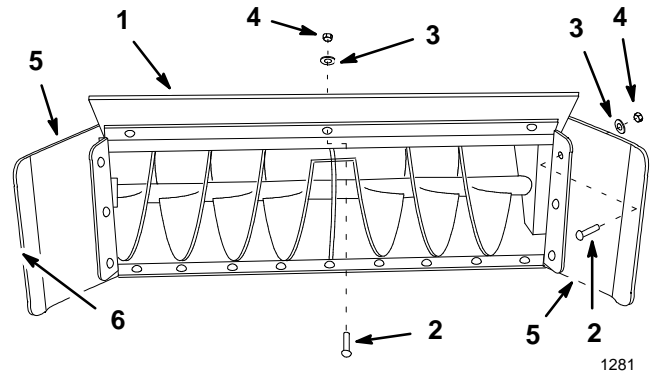

Figure 2
4. Rotate the housing down and position top plate outside top flange of housing. Secure with (3) 3/8 x 1" carriage bolts (heads on inside) (3) 3/8" washers and (3) 3/8" locknuts (Fig. 2).
5. Position side plates outside housing side flanges, with cutting edges parallel to side of housing, and secure with (6) 3/8 x 1" carriage bolts (heads on inside), (6) 3/8" washer and (6) 3/8" locknuts (Fig. 2).